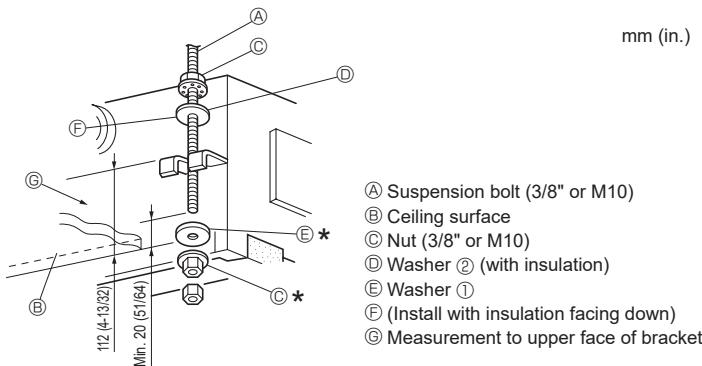

**Fig. 2-4**
- ① Wooden structures (Fig. 2-4)
- ② Ferro-concrete structures